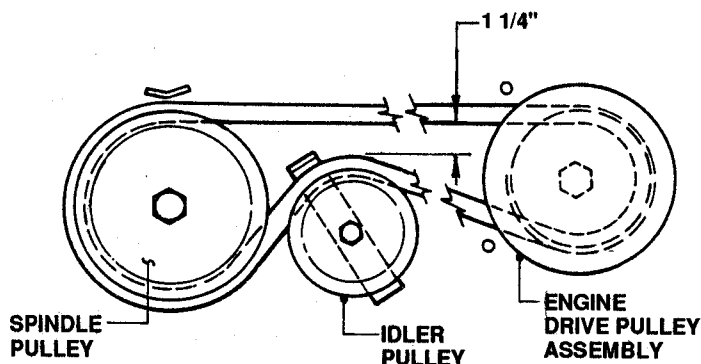

FIGURE 3.5
- (b) Measure the distance between belt at idler pulley. See Figure 3.5. The distance between belt should be 1-1/4" but no less than 1".